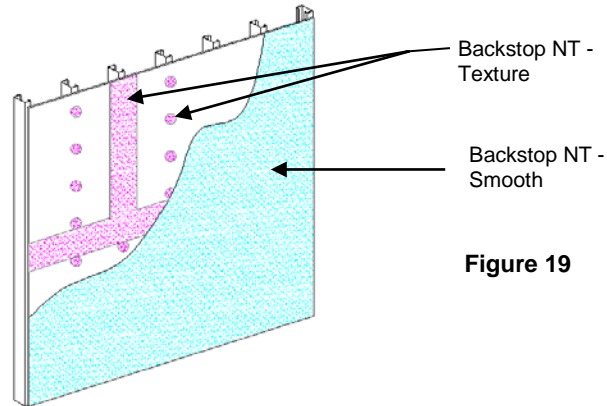

Figure 19
- a. General: Dryvit Backstop NT - Smooth can be applied using a roller or sprayed and back-rolled over the acceptable sheathing substrates. **NOTE: OSB sheathing requires that joints and fasteners be treated with Backstop NT - Texture. A minimum of two (2) coats of Backstop NT - Smooth are required for the field of the wall. Backstop NT - Texture is not recommended for application in the field of the board.**
- 2) Backstop NT - Smooth material should be applied in a uniform, continuous film at the recommended coverage rate Figure 19. **NOTE: Sheathing substrates with a surface texture or high porosity will require additional material.**